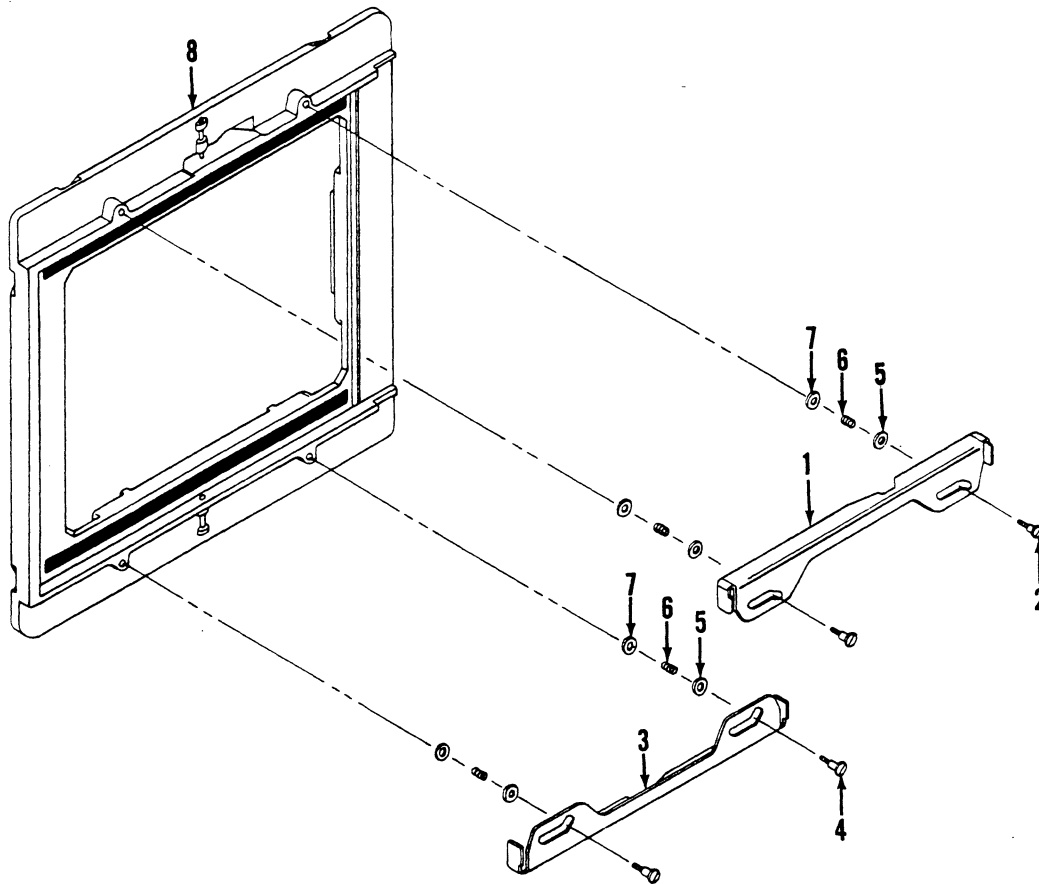

Figure 12C. REVOLVING FRAME COMPLETE
X.2. REVOLVING FRAME COMPLETE - DISASSEMBLY AND REASSEMBLY (Figure 12C)
a. Remove two machine screws (2), upper slide lock (1), and two each flat washers (5), slide lock springs (6) and flat washers (7).
b. Remove two machine screws (4), lower slide lock (3), and two each flat washers (5), slide lock springs (6) and flat washers (7) from frame assembly